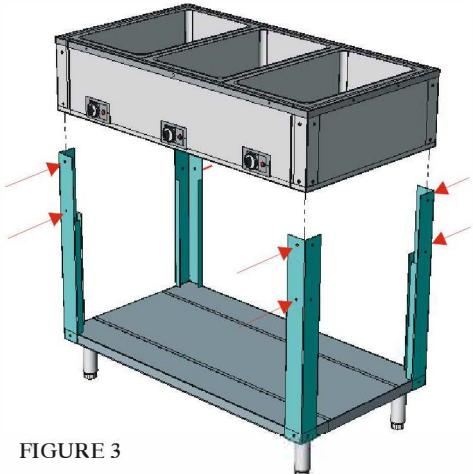

FIGURE 3
- C. Set main box assembly onto corner posts as shown in Figure 3. Have a second person assist in placing the box. Use $\frac{1}{4}$ -20 x 3/4" Truss head screws on the operator and customer sides only.